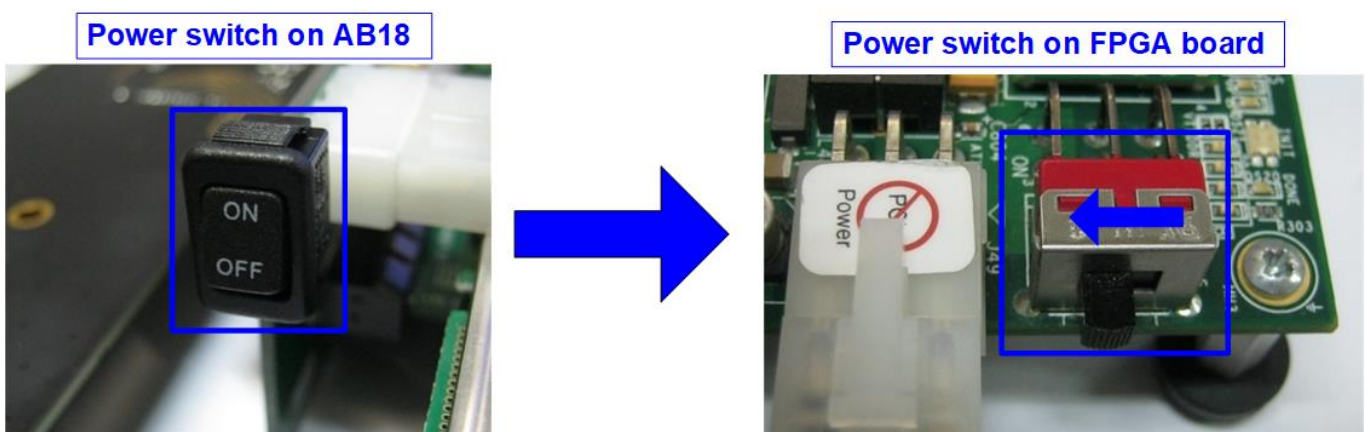

Figure 2-5 Turn on power switch on FPGA and adapter board
- 5) Power on FPGA development board, ATX power supply for AB18, and AB18 board, as shown in Figure 2-5.